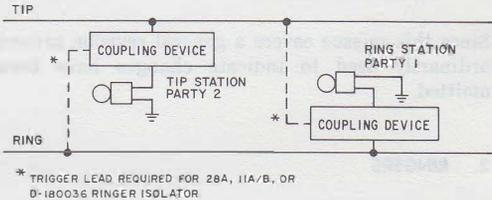

Fig. 2—Two-Party Full Selective Grounded Ringing
- Add Fig. 2, 3, and 4
4.02 Two-party full selective ringing is accomplished by connecting the ringers of one party from the ring side of line to ground, and the ringers of the other party from the tip side of the line to ground either directly, or through a coupling device (Fig. 2).